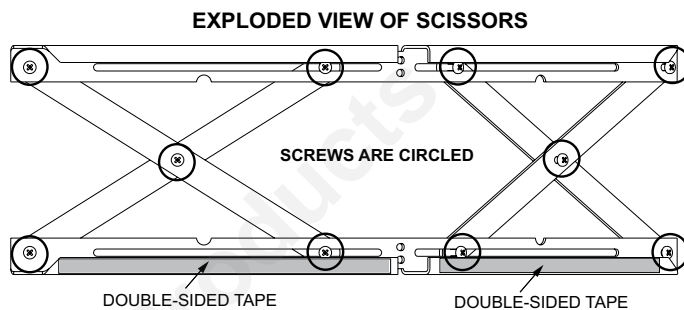

Figure 15A
**Included in Kit:** (1) Trim Top, (1) Trim Front, (2) Trim Sides, Double-Sided Tape (already installed)**Tools Needed:** Phillips Head Screwdriver, Sheet Metal Shears, Measuring Tape, Gloves
1. The 10 screws on each set of scissors will already be loose when shipped. **See Figure 15A.**